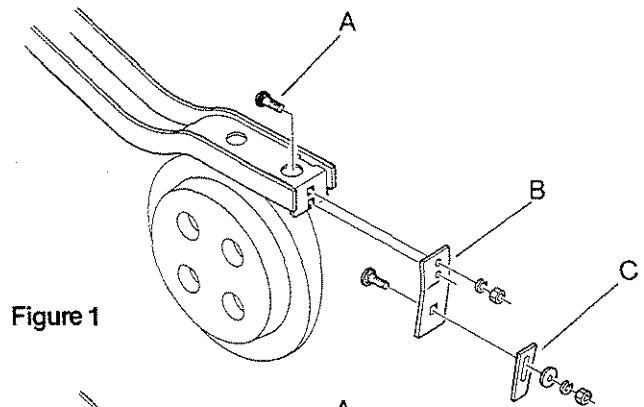
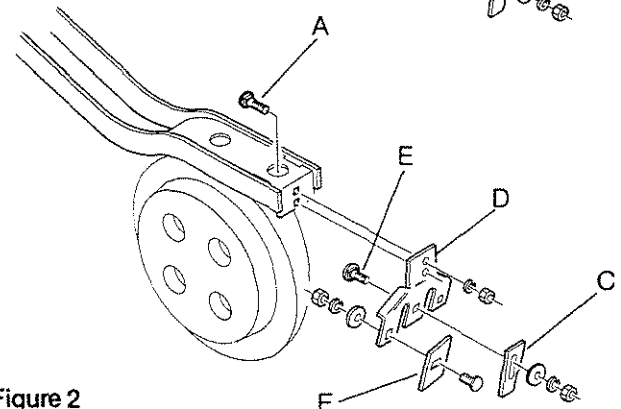

Figure 1
Figure 2
1. Remove $\frac{3}{8}$ " x $1\frac{1}{4}$ " long carriage bolt (A), washers and hex nuts which hold existing scraper mount (B) in position (see figure 1).
2. Remove inside scraper (C) from scraper mount (B). Scraper mount (B) is no longer needed.
3. Reposition inside scraper (C) onto new scraper mount (D) with $\frac{3}{8}$ " x 1" long carriage bolt (E), washers and hex nut (see figure 2).
4. Reattach new scraper assembly to opener frame with $\frac{3}{8}$ " x $1\frac{1}{4}$ " long carriage bolt (A), washers and hex nuts. BE SURE ANGLE OF NEW SCRAPER MOUNT (D) POINTS INWARD TOWARD CENTER OF OPENER DISK.
5. Install scraper blade (F) on each wing of scraper mount (D) with $\frac{5}{16}$ " x $\frac{3}{4}$ " carriage bolt, washers and hex nut. Adjust scraper blades to have MINIMUM CLEARANCE with disk opener and rubber-tired depth-control wheel.